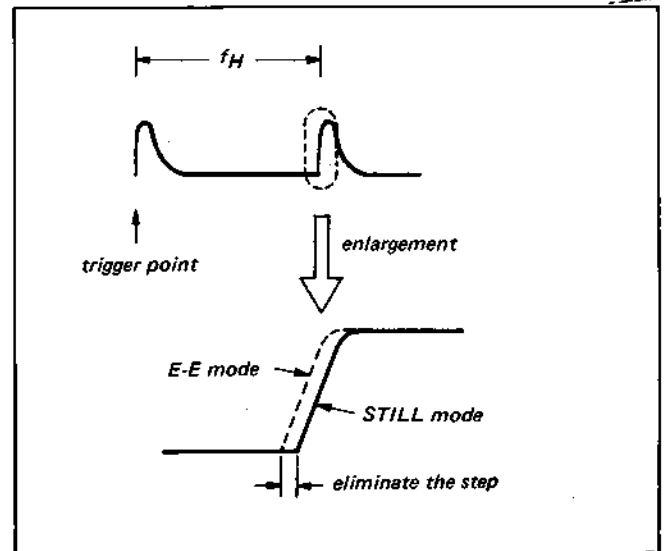

Fig. 5-25. STILL f_H adjustment
- (1) Adjust f_H during the STILL mode with RV805 to be equal to f_H in the E-E mode. (See Fig. 5-25)